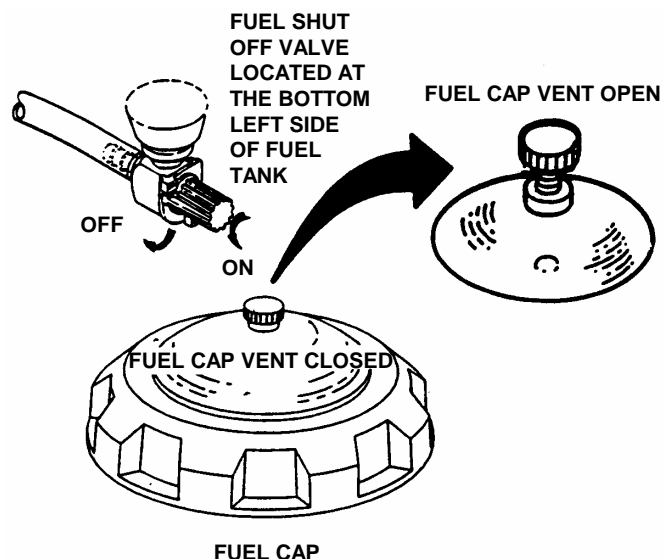

FIGURE 2.3
2.1.6. Add fuel to tank of the YARD CRUISER outside where fumes can safely dissipate. Make sure fuel filler cap is tight and vent is open after refueling. Turn fuel shut off valve to the "OPEN" position. See Figure 2.3. Refer to engine owner's manual for fuel specifications.
4. Open vent on fuel filler cap by turning counterclockwise. **IMPORTANT:** Failure to open vent on the fuel filler cap can cause engine to stall. See Figure 2.3.
5. Turn fuel shut off valve to the open position. See Figure 2.3.
1. Make sure fuel cap is on tight. Turn fuel shut off valve to the "CLOSED" position. Start engine and allow it to run until engine runs out of fuel. Close vent on fuel filler cap. See Figure 2.3.